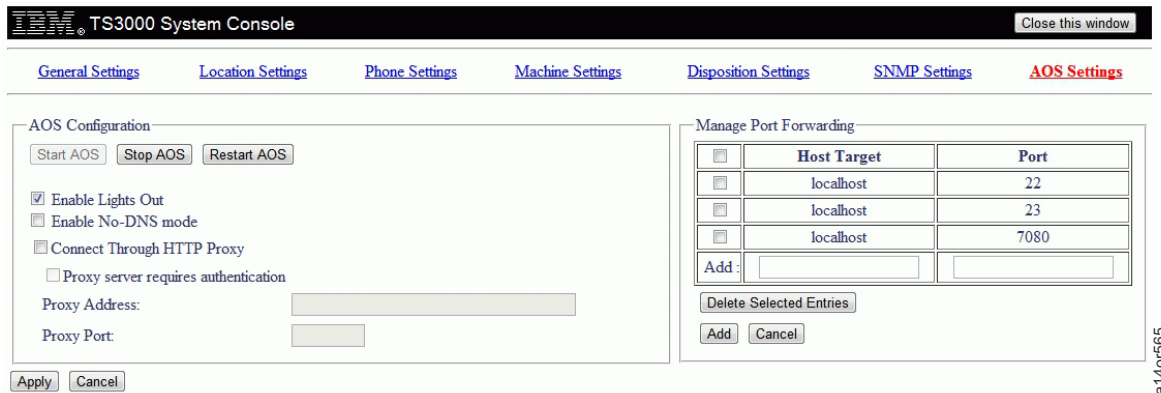

Figure 2-109. AOS Settings Screen
17. See **Figure 2-109 on page 2-78**. To configure Assist-on-Site (AOS), click the **AOS Settings** link at the top of the page.